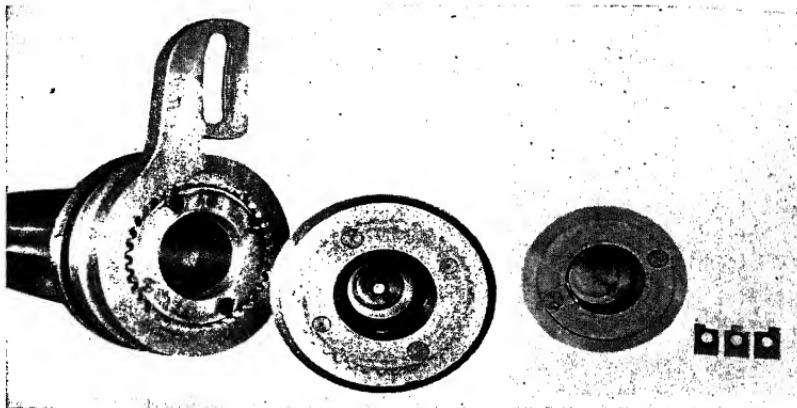

FIG. 15.—Assembling counterweight brackets on their proper blades.
9. Assemble the counterweight brackets on their correspondingly numbered blades (Fig. 15). Be sure that four index pins are used for each blade.
Both types are illustrated in Fig. 15. The *E* shank blade is shown with its counterweight bracket indexed to a base setting of 23 deg. The semi-circle holes in the bracket are numbered and the holes in the blade bushing have corresponding numbers. *These numbers mean blade angle at 42 in. radius.* To index, move the bracket around on the butt of the blade until the desired numbers coincide, insert an index pin here and additional pins at the three other points (90 deg. apart), where the holes coincide.